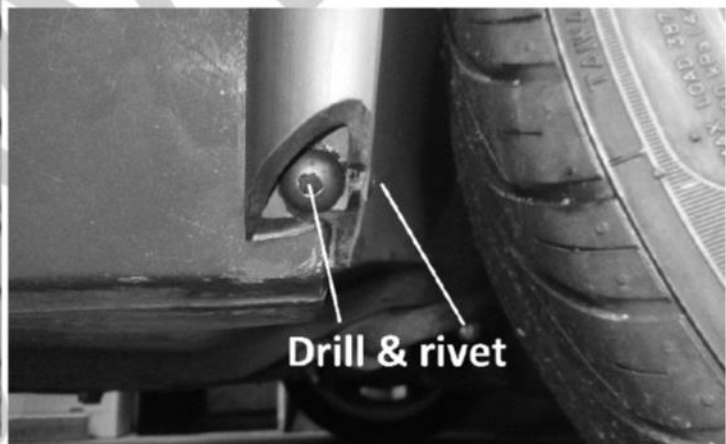

FIG 4
- 4.4 If using the supplied rivets, use a 5mm drill bit to drill through the upper and / or lower bonding faces as close to the ends as possible into the vehicle bodywork, then secure each end of the extensions using the supplied plastic rivets (FIG 4), treating any bare metal produced from drilling prior to installing any rivets will help prevent future rusting, extra rivets are included in case any other part of the extension may require additional fixing.